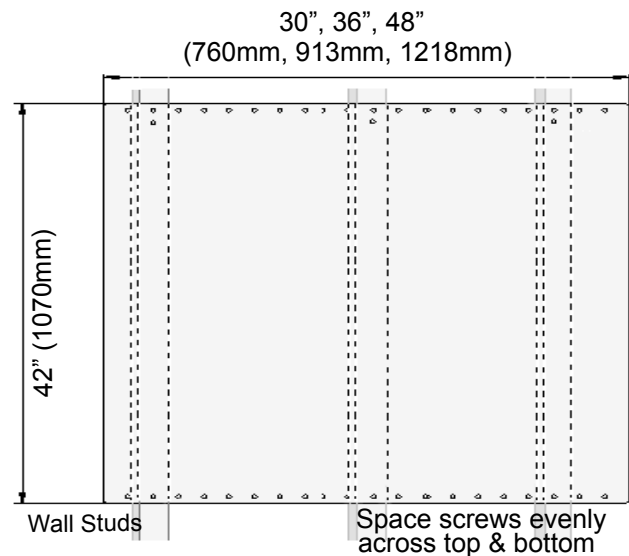

Figure 11: Backsplash Installation
3. Per each wall stud, use (2) of the provided screws to secure both the top and bottom of the backsplash (see *Figure 11*).